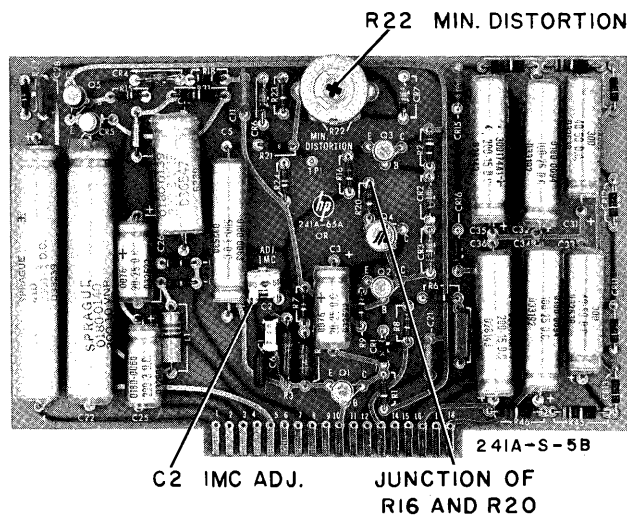

Figure 5-5. Amplifier Board Assembly
- n. Measure DC Voltage between ground and junction of R16 and R20 (see Figure 5-5). Adjust the value of R7 to obtain a reading of -1.0 ± 0.5 volts.
- e. Adjust C2 (see Figure 5-5) for an indication of 903 KC.